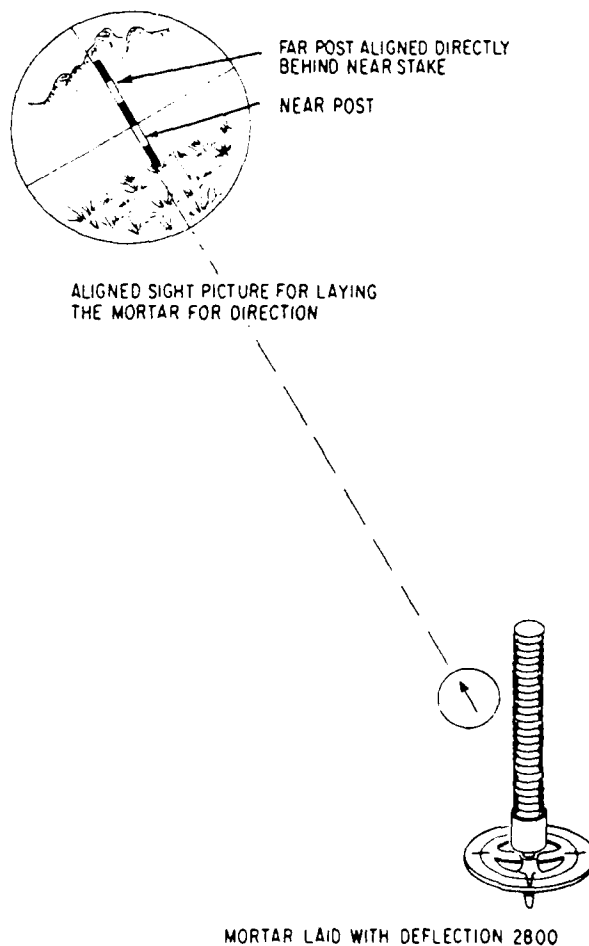

Figure 6-16.—Aligned sight picture.
appear as one. This is called the **ALIGNED** sight picture (fig. 6-16). If the two aiming posts do not appear as one, displacement of the sight or the baseplate has occurred. This separation is caused by one of two things: either (1) a large deflection shift that moves the entire sight out of the plane
The gunner can only have one of two sight pictures when the mortar is fired: either the **ALIGNED** sight picture or the **COMPENSATED** sight picture. To use the aligned sight picture correctly, the gunner must lay the vertical line of the sight reticle so it just touches the left side of the visible aiming post (fig. 6-16).